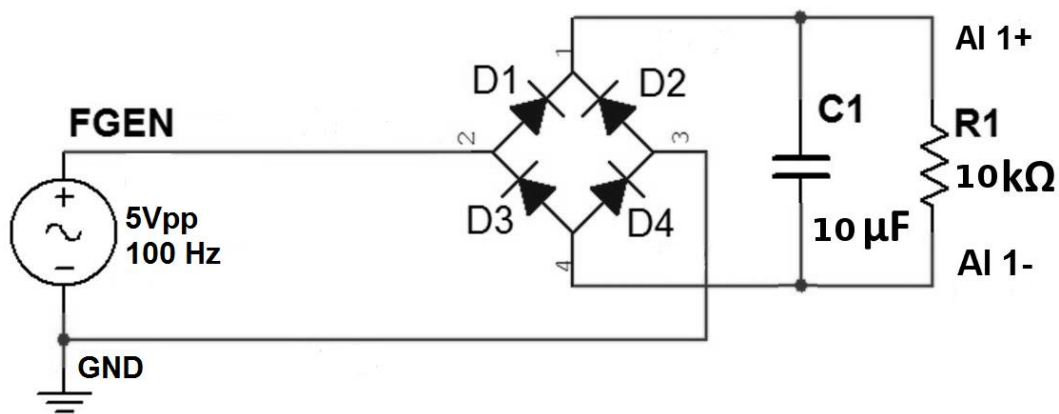

Figure 4.5: Full-wave rectifier circuit (with filter)
1. Connect the circuit as shown in the figure 4.5.